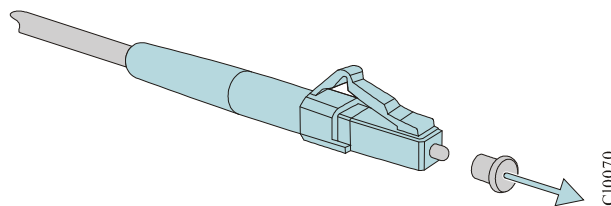

Figure 4-15 Remove the dustproof cap of the fiber
- Step 2: Remove the dustproof cap from the fiber optic connector, as shown in Figure 4-15.